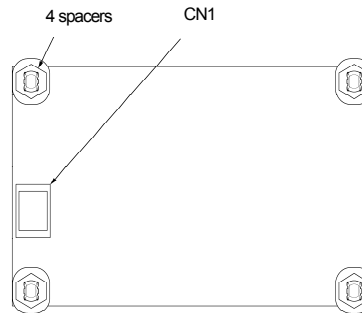

Figure 2 Back of the Card
- (2) Insert four spacers and connector CN1 on the back of the OPC-F1-LNW (Figure 2) into the four spacer holes and Port A (CN4) on the inverter's control printed circuit board (PCB) (Figure 4), respectively.